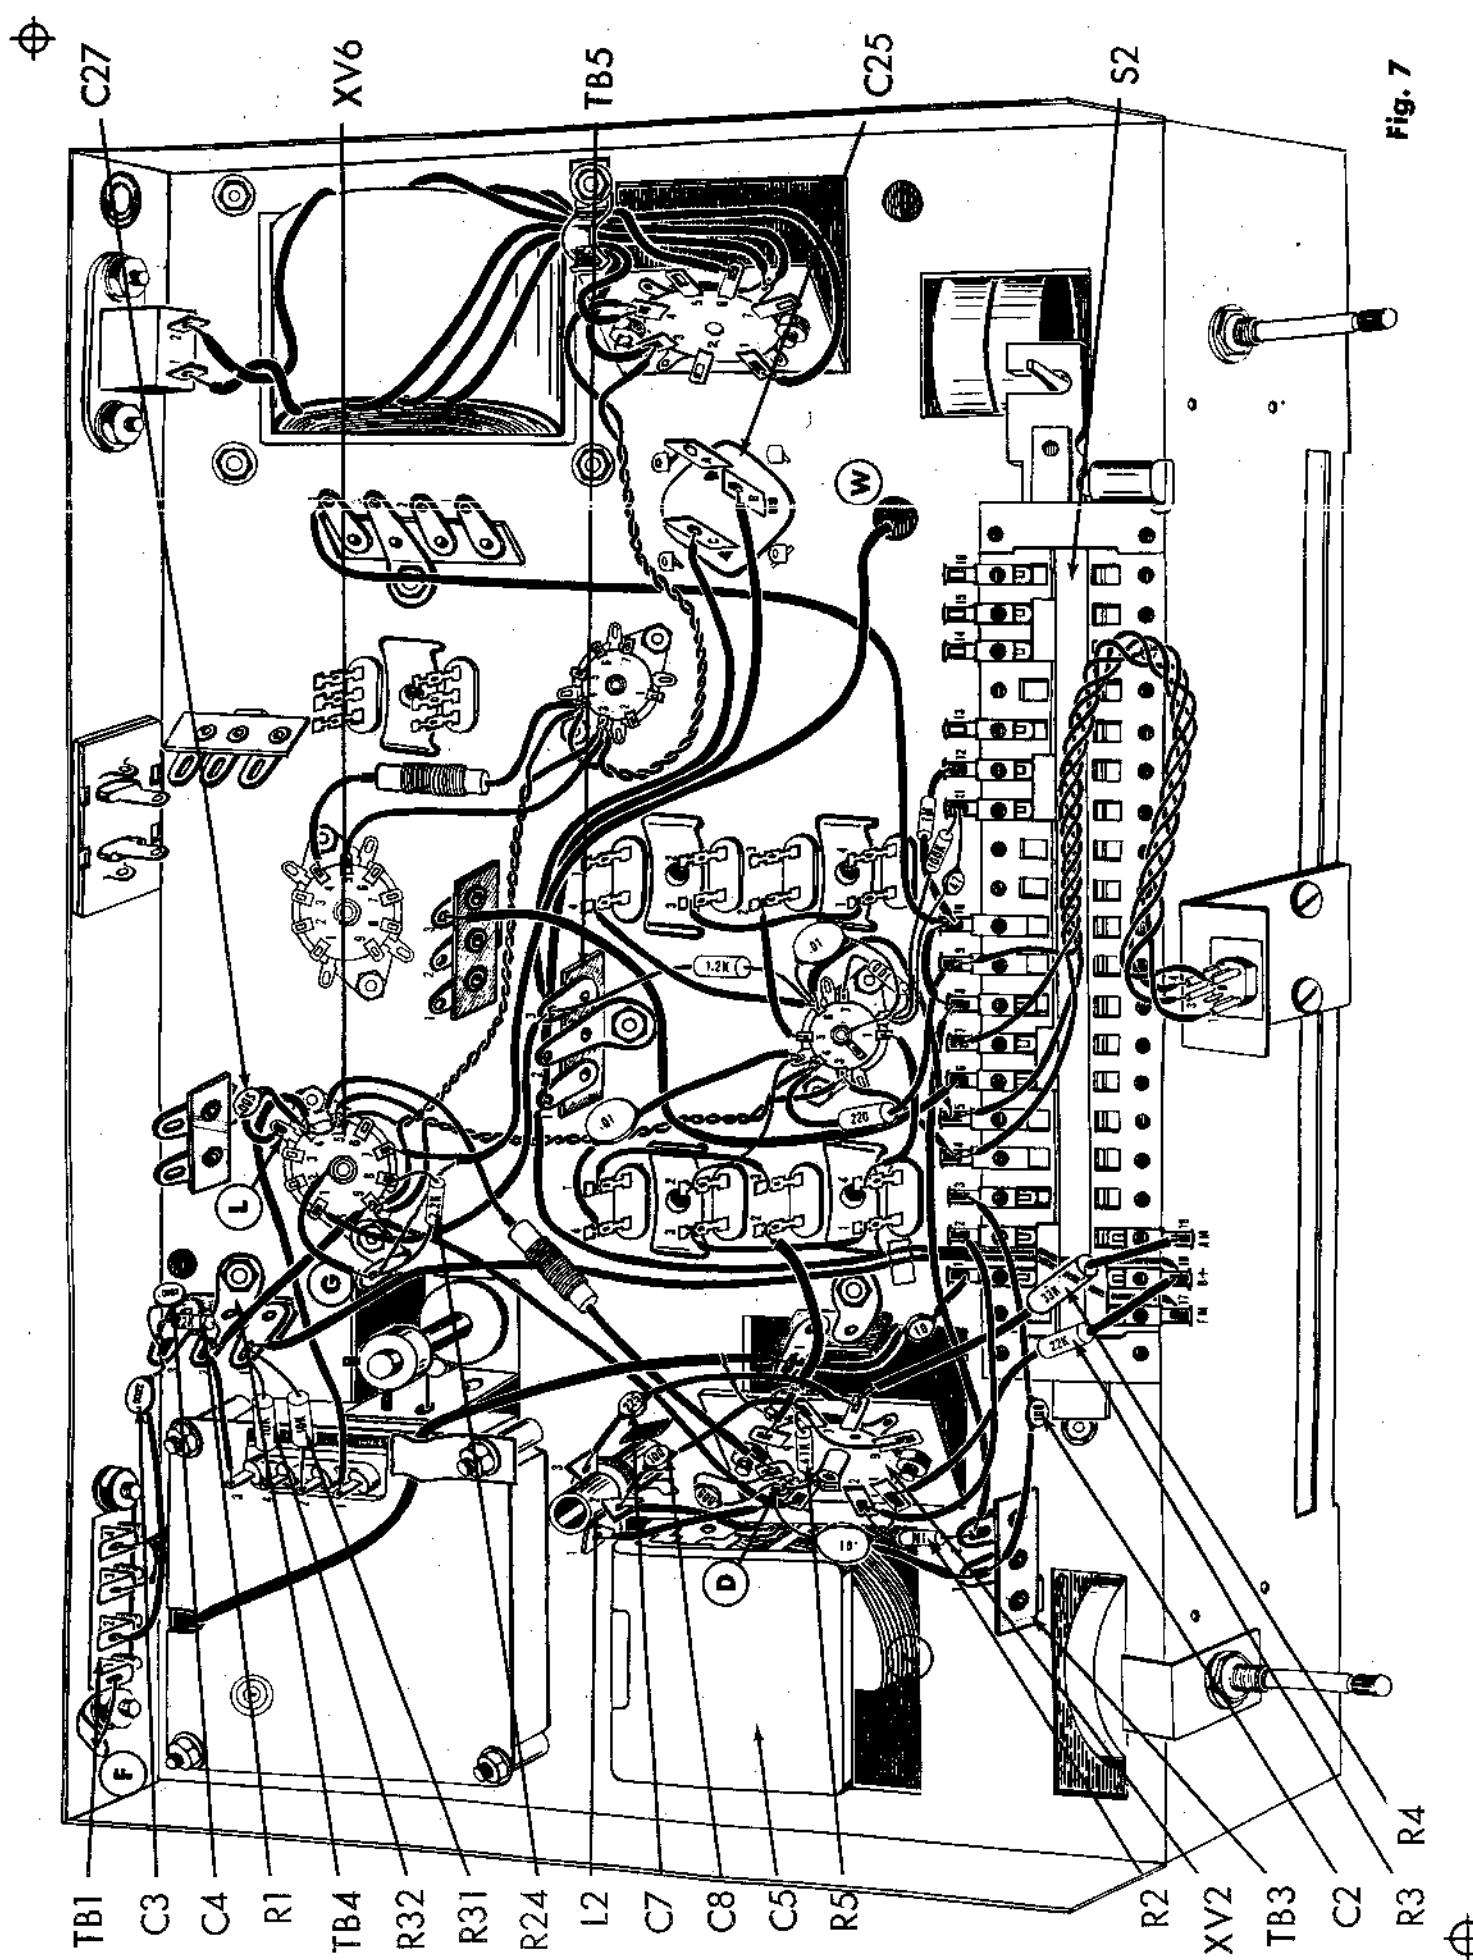

Fig. 7
(✓) 1. Fig. 7. Bend XV2-3 to the center lug on XV2.
(✓) 2. Fig. 7. Cut both leads on a 47K (yellow, violet, orange, silver) resistor, R5, to 1/2". Connect from XV2-7 (C) to the center lug C on XV2.
(✓) 3. Fig. 7. Connect a 3/4" piece of bare wire from the center lug (S3) on XV2 to ground lug "D" (S4) on XV2.
(✓) 4. Fig. 7. Cut both leads on a 100 mmf disc capacitor, C8, to 3/4". Cover each lead with a 1/2" piece of spaghetti. Connect from L2-2 (S2) to XV2-7 (S3).
(✓) 5. Fig. 7. Cut both leads on a 225 mmf disc capacitor, C7, to 1". Cover each lead with a 3/4" piece of spaghetti. Connect from L2-3 (S1) to XV2-8 (C).
(✓) 6. Fig. 7. Cut both leads on a 1M (brown, black, green, silver) resistor, R2, to 1/2". Connect from XV2-2 (C) to TB3-2 (S2).
(✓) 7. Fig. 7. Cut both leads on a 100 mmf disc capacitor, C2, to 1 1/4". Cover each lead with a 1" piece of spaghetti. Connect from TB3-1 (C) to S2-3 (S1).
(✓) 8. Fig. 7. Cut both leads on a 22K (red, red, orange, silver) 1 watt resistor, R3, to 1". Cover each lead with a 3/4" piece of spaghetti. Connect from XV2-1 (S2) to S2-18 (S2).
(✓) 9. Fig. 7. Cut both leads on a 33K (orange, orange, orange, silver) 1 watt resistor, R4, to 1". Cover each lead with a 3/4" piece of spaghetti. Connect from XV2-8 (S2) to S2-19 (S1).
(✓) 10. Fig. 7. Connect one end of a 3" piece of grey wire to TB3-1 (S2). Push the other end through rectangular hole "Z" next to the variable capacitor C5 to the top of the chassis.
(✓) 11. Fig. 7. Connect a 3" piece of white wire from XV2-2 (S2) to S2-2 (S1).
(✓) 12. Fig. 7. Cut all leads on two 10K (brown, black, orange, silver) 1 watt resistors, R31 and R32, to 1/2". Connect R31 from TB4-1 (C) to lug #2 (S1) on the FM Front End Assembly. Connect R32 from TB4-1 (S3) to lug #4 (S1) on the FM Front End Assembly. Do not use too much heat or it will melt the insulation on the FM Front End Assembly.
(✓) 13. Fig. 7. Connect a 1 3/4" piece of brown wire from TB4-2 (C) to lug #3 (S1) on the FM Front End Assembly. Do not use too much heat or
(✓) 14. Fig. 7. Connect a 3/4" piece of bare wire from TB1-1 (S1) to ground lug "F" (S1).
(✓) 15. Fig. 7. Strip back 1/2" from both ends of a 2" piece of 300Ω twin lead. Connect one lead from one end to TB1-3 (S1) and the other lead from the same end to TB1-4 (S1). Without twisting the lead, push the remainder of the lead through hole "Y".
(✓) 16. Fig. 7. On a .0022mfd (2.2K or 2000mmf) disc capacitor, C3, cut one lead to 1 1/2" and the second lead to 1". Cover the 1 1/2" lead with a 1 1/4" piece of spaghetti and connect to TB1-2 (S1). Connect the second lead to TB4-3 (C). Note that capacitor leads do not touch any metal component or screw.
(✓) 17. Fig. 7. Cut both leads on a 22K (red, red, orange, silver) resistor, R1, to 1/2". Connect from TB4-2 (C) to TB4-3 (C).
(✓) 18. Fig. 7. Cut both leads on a .0022mfd (2.2K or 2200mmf) disc capacitor, C4, to 1/2". Connect from TB4-2 (S4) to TB4-3 (C).
(✓) 19. Fig. 7. Connect a 4" piece of red wire from XV6-1 (S1) to TB5-3 (C).
(✓) 20. Fig. 7. Connect a 5" piece of red wire from TB5-1 (C) to C25-B (C).
(✓) 21. Fig. 7. Connect a 4" piece of red wire from TB5-3 (C) to C25-C (C).
(✓) 22. Fig. 7. Cut both leads on a 2.2K (red, red, red, silver) resistor, R24, to 1/2". Connect from XV6-8 (S1) to ground lug "G" (C) at XV6.
(✓) 23. Fig. 7. Connect a 1 1/4" piece of black wire from the center post on XV6 (S1) to ground lug "G" (C) on XV6.
(✓) 24. Fig. 7. Cut both leads on a .005 mfd (5K or 5000mmf) disc capacitor, C27, to 1/2". Connect from XV6-4 (S3) to ground lug "L" (S1) on XV6.
(✓) 25. Fig. 7. On one end of a 9" piece of shielded cable, strip the outer insulation back 3/4". Twist the shield strands together. Strip off 1/4" of the insulation from the inner conductor. Connect the inner conductor to XV6-7 (S1) and the outer shield to ground lug "G" (S3). On the other end of the same piece of cable, strip the outer insulation back 1/2". Twist the shield strands together. Strip off 1/4" of the insulation from the inner conductor. Run the lead along the chassis as shown and push the unsoldered end through the rectangular hole "W" to the top of the chassis.